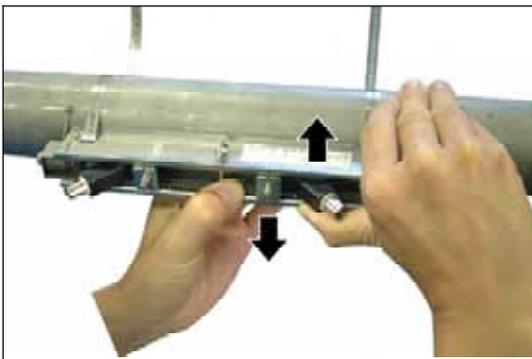

Fig. 3-40
- (2) By hand, hold the frame close to the pressing fixture for a sensor unit to release. Press the plastic section which extends from the frame of the sensor unit just enough to open the frame a little (about 1 mm). At this time, the claws of the sensor unit fixture are disengaged from the frame (Fig. 3-40).